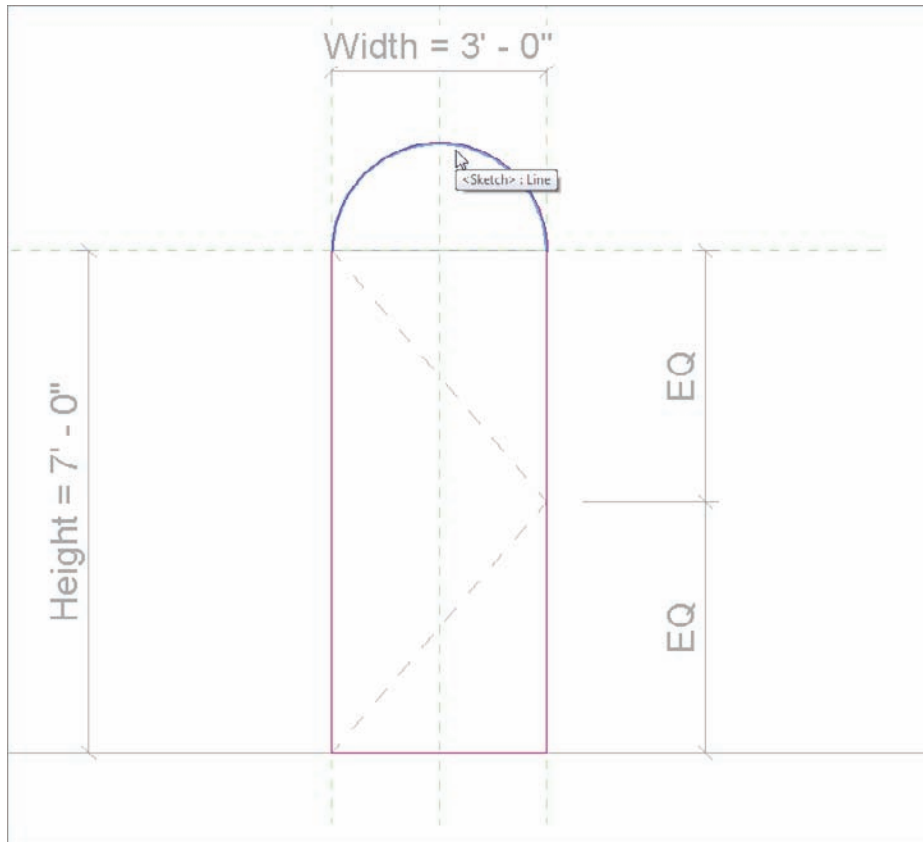

FIGURE 17.15 Rounding off the door top
9. Draw an arc, as shown in Figure 17.15.